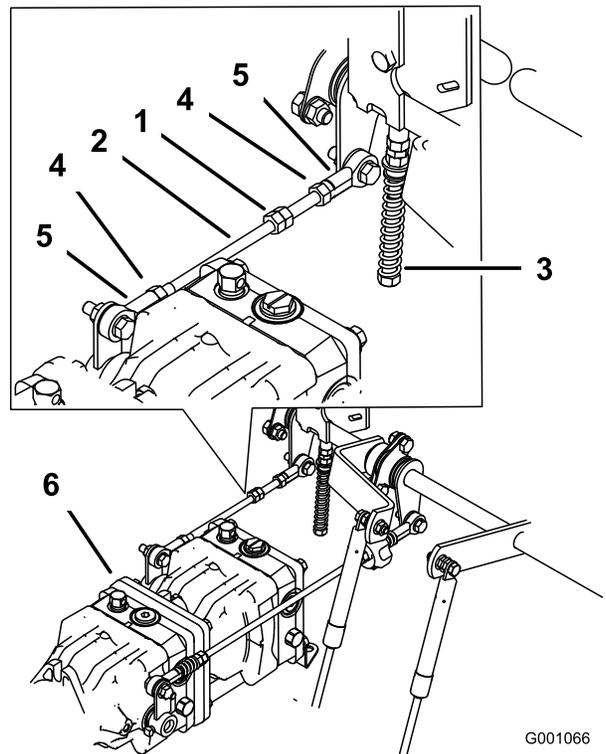

Figure 82
1. Loosen the locknuts at the ball joints on the pump control rod (Figure 82).
3. Adjust the pump rod length by rotating double nuts on rod, in the appropriate direction, until wheel is still or slightly creeps in reverse (Figure 82).
6. Tighten the locknuts at the ball joints (Figure 82).